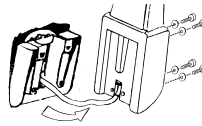

Figure 1
1. Hook up chemical suction hose to the tip on the bottom of the handle (Figure 1).